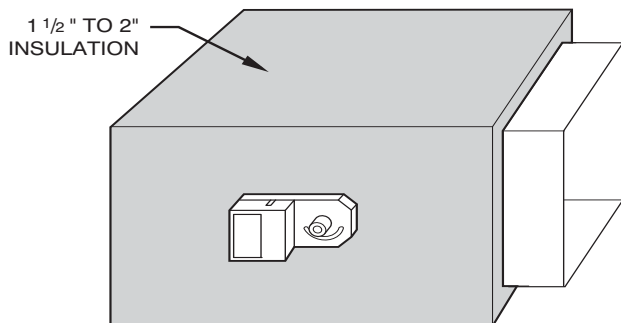

Fig. 4 - Insulated Rectangular Metal Ductwork
3. If dampers are applied in an unconditioned space, insulate them using 1-1/2 inch to 2 inch insulation (See Fig. 4).